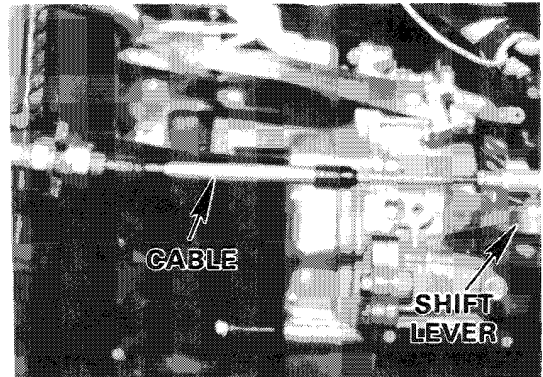

Figure 6-10
5. Remove transmission shifter cable assembly from bracket (Figure 6-10).